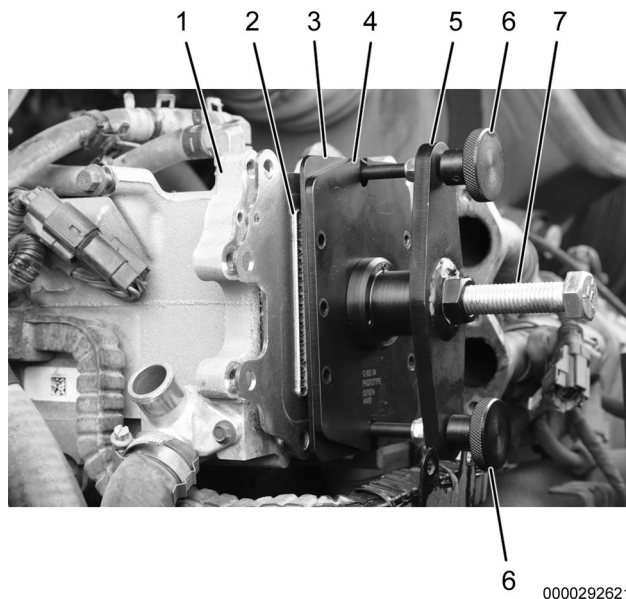

Figure 7. LT EGR Core Puller Thumbscrews – LT EGR Cooler Core Removal.
3. Thumbscrew (2)
14. Loosen LT EGR core puller removal forcing screw (Figure 7, Item 4).
15. Loosen two thumbscrews (Figure 7, Item 3) and remove LT EGR core puller (Figure 7, Item 2) from LT EGR cooler core (Figure 7, Item 1).